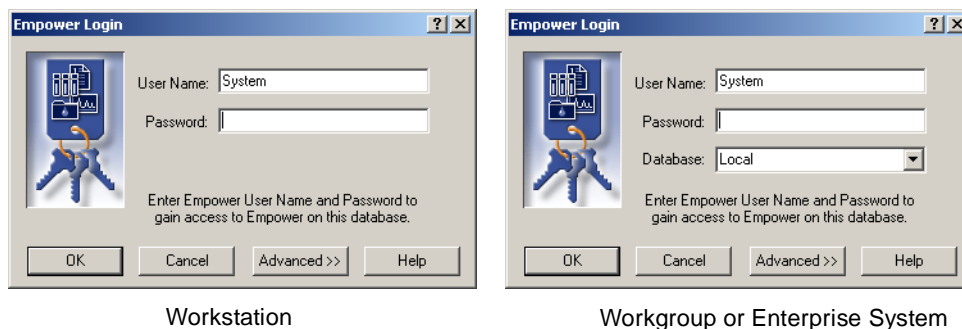

Figure 3-1 Empower Login Dialog Box
2. To start Empower software, select **Start > Programs** (for Windows XP, **All Programs**) > **Empower > Empower Login**. The Empower Login dialog box appears (Figure 3-1).